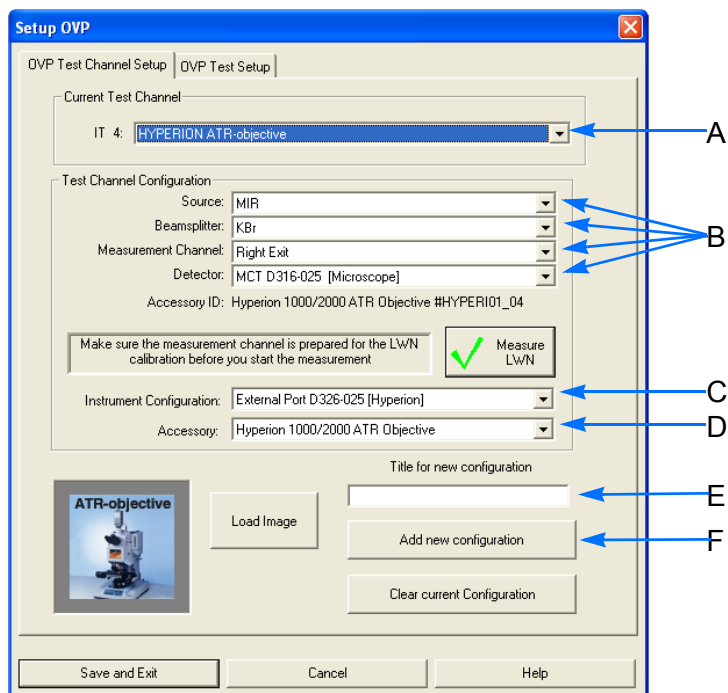
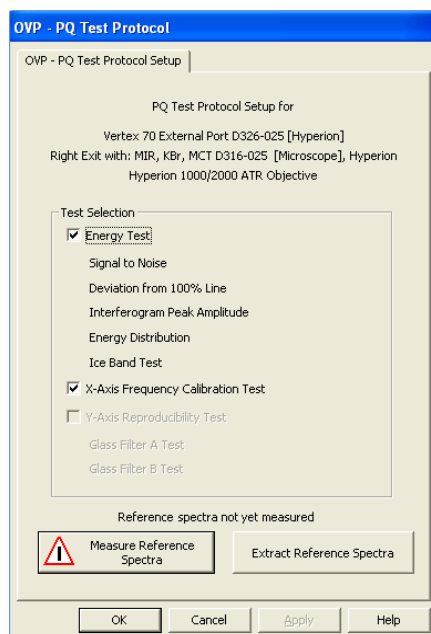

Figure 49: Setup OVP
Figure 54: Setting up the PQ Test Protocol
In case you set up OVP for the first time, enter a descriptive title for the current configuration (e.g. HYPERION ATR-objective) into the entry field *Title for new configuration* (E in figure 49) and click on the *Add new configuration* button (F in figure 49). Moreover, you have to specify the installed source, beamsplitter installed in the spectrometer, the measurement channel (i.e. whether the microscope is coupled to the left or right exit port of the spectrometer) and the detector installed in the microscope (B in figure 49). Then, select the correct option for the instrument configuration (C in figure 49) and the accessory in question (D in figure 49).
In case you have already set up one or more test channel configurations, you can select the test channel in question from the *Current Test Channel* drop-down list (A in figure 49). In this case, the correct options for *Source*, *Beamsplitter* etc. (B in figure 49) are selected automatically and you need not repeat the measurement of the LWN and the reference spectra.
In case you perform an OVP test for the first time or you have replaced the laser or another optical component you need to measure the laser wavenumber (LWN) by clicking in the *Measure LWN* button. See figure 49. Otherwise, you can leave out this step and proceed with section *Setting up the PQ Test Protocol*.
A warning symbol on the *Measure Reference Spectra* button indicates that reference spectra need to be measured. (See figure 54.) The cases, in which new reference spectra need to be measured, are listed in the following section.
The necessity for a reference spectra measurement is indicated by a warning symbol on the *Measure Reference Spectra* button. (See figure 54.) Otherwise, you can leave out this step, click in the *Setup OVP* window on the *Save and Exit* button (see figure 49) and proceed with the section *Running the PQ Test*.
- Then, click in the *Setup OVP* window (figure 49) on the *Save and Exit* button.